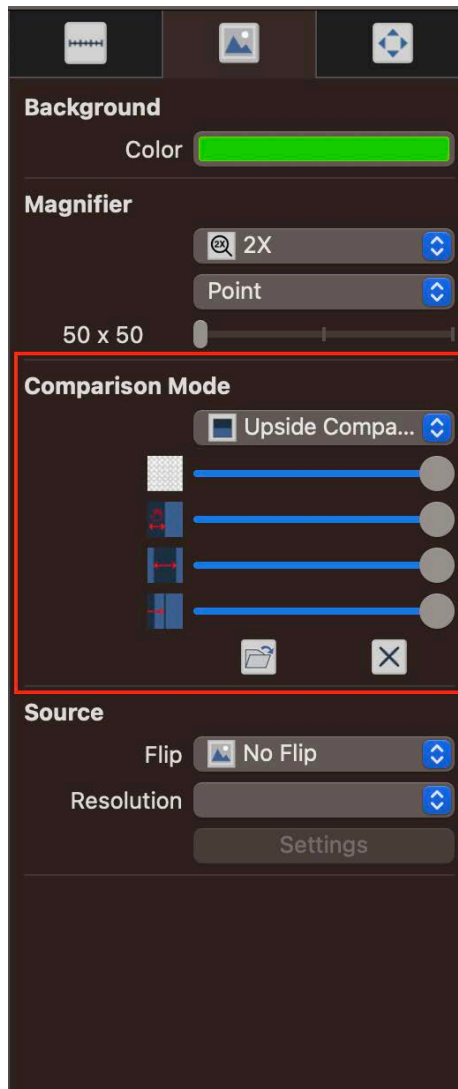

Figure 5-50 Comparison function block
3. Comparison function, as shown in Figure 5-50: